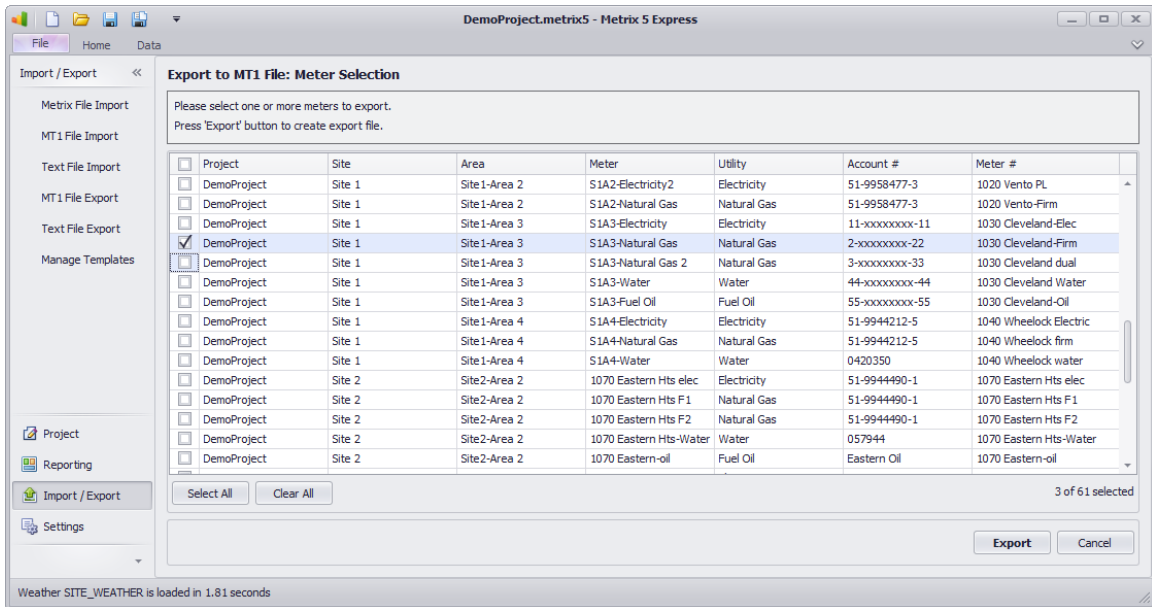

Figure 5.7: MT1 File Export main screen.
1. **Open the MT1 Export screen:** Click on the MT1 File Export button in the main menu shown in Figure 5.1. A new window as the one shown in Figure 5.7 will appear.